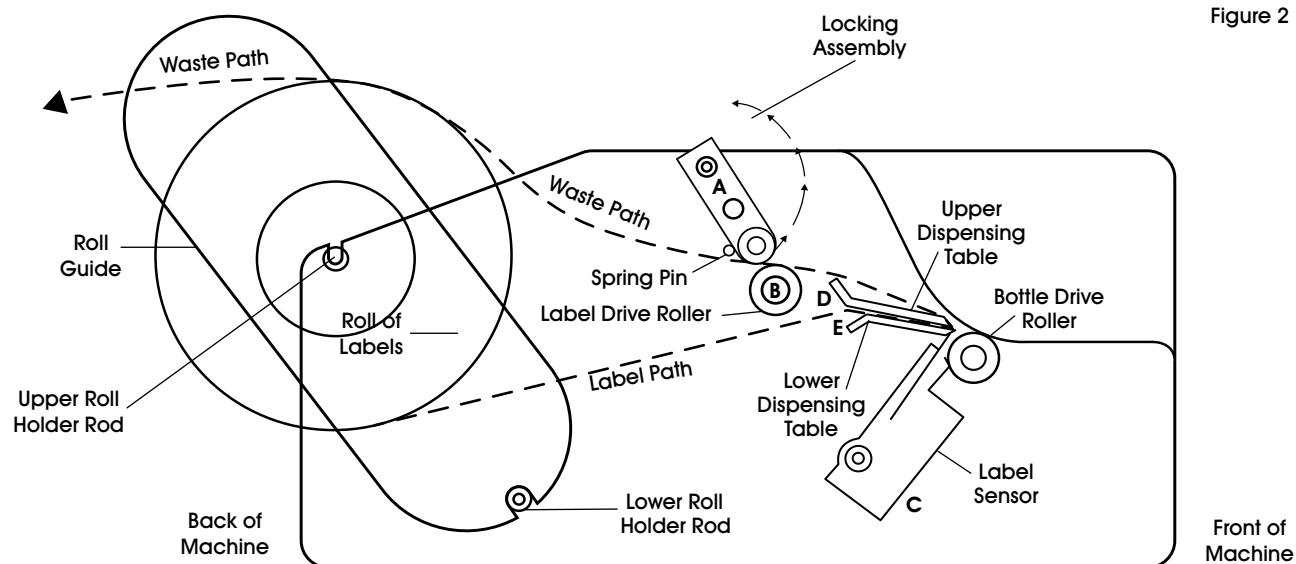

Figure 2
2. Open the Locking Assembly (A) by pulling it forward until it swings freely. (See Figure 2)
3. Remove upper dispensing table (D)
4. Take the two feet of label liner and thread it under label drive roller (B) and over lower dispensing table (E). (See Figure 2)
5. Replace the upper dispensing table (D).
6. Thread the two feet of liner back over the upper dispensing table (D), going under locking assembly (A) and over the label drive roller (B). (See Figure 2)
8. While keeping tension on the labels, push down on locking assembly (A) towards the back of the machine until it snaps in place.